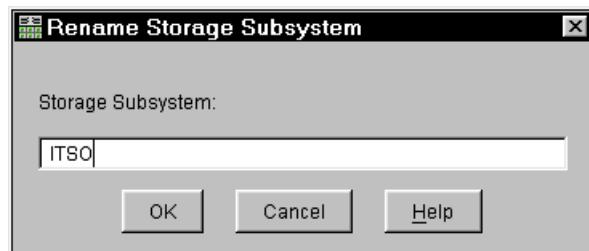

Figure 4-26 Renaming FASST
2. Enter a new name for the subsystem in the Rename Storage Subsystem dialog (Figure 4-26).